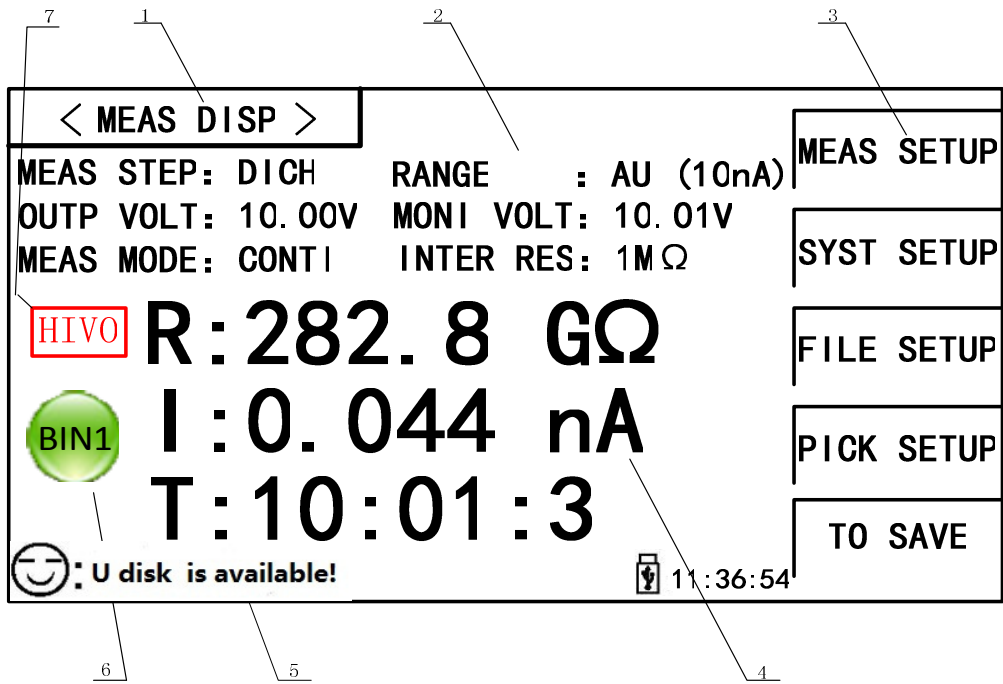

Figure 2-5 SME1202A Main Display
- Use [MEAS], [SYSTEM] or [FILE] or soft keys to enter into the page. (Refer to fig 2-5)